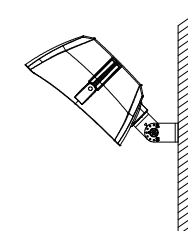

figure 4.4
Step 3: Loosen screw; Adjust fixture angles as per actual demands and tighten screws later. (figure 4.4), Tips: Angles of the fixture is adjustable.